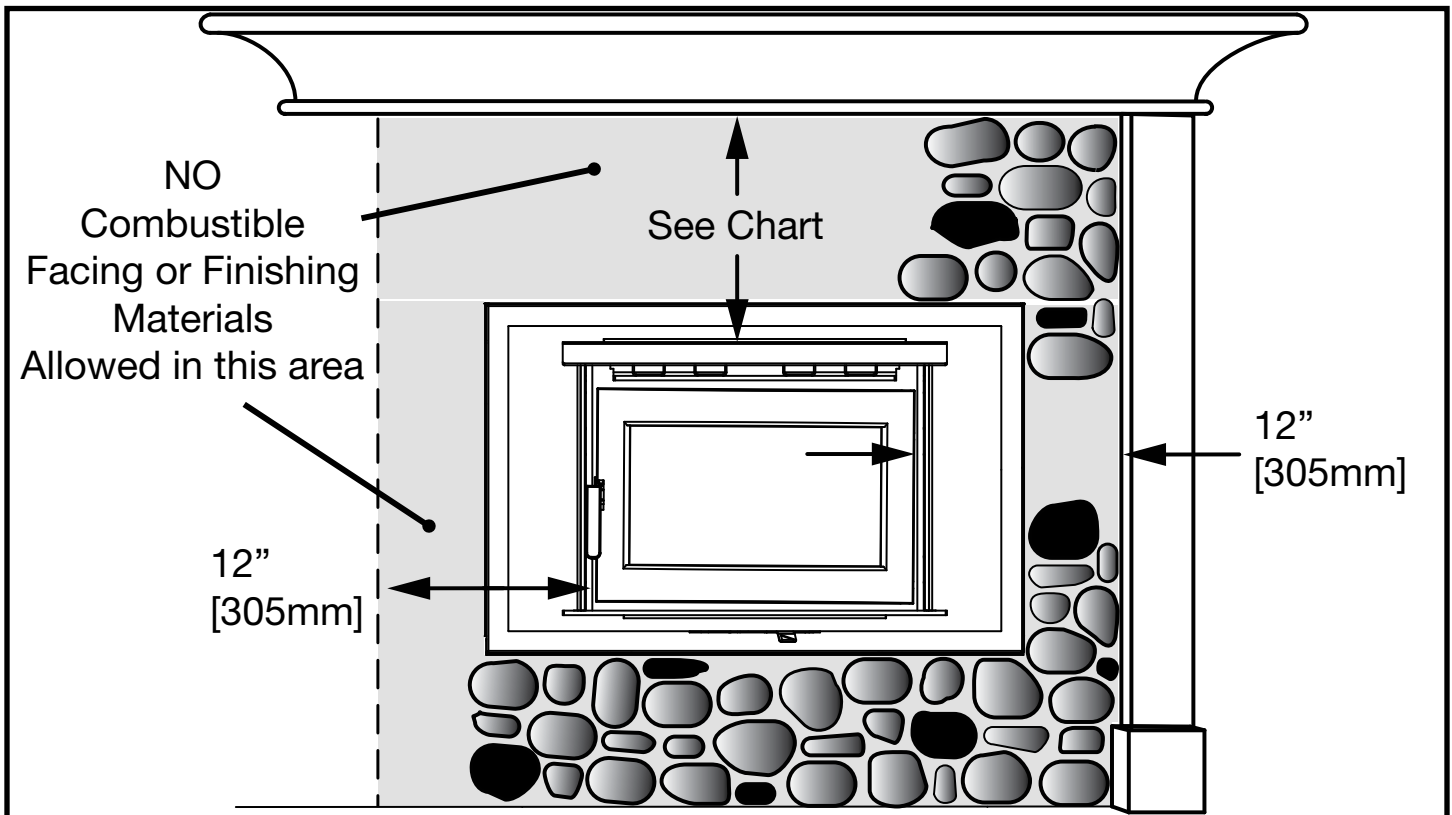

Figure 26: FP16 LE Facing Material Clearances.
2. The rating label plate is located on the left side, in the bottom casing support, between the side casing and the heat shield. Figure 26. It is attached to the heat shield by a stainless steel cable.